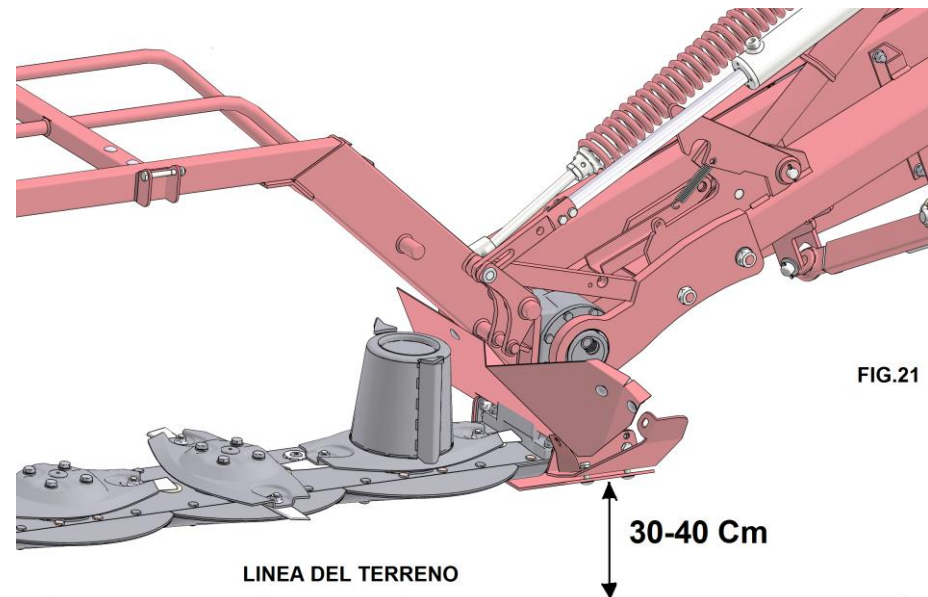

FIG.21
3. lift the bar using the tractor's hydraulic lift, positioning lower slide **M** (**fig. 21**) at about 30-40 cm from the ground;